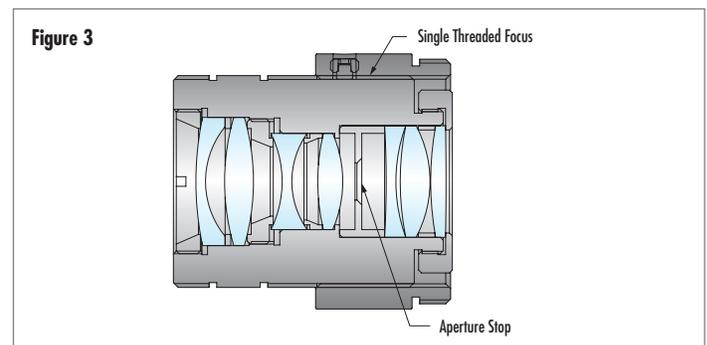

Figure 3: Industrial Ruggedized lens with simplified mechanics
**Figure 3** shows an Industrial Ruggedized lens where the focus travel is reduced to a single focus thread with locking screws and the iris has been replaced with a fixed aperture. Vibrating machines and shocks from the lens moving on a robot or automated armature will not affect the focus or f-stop of an Industrial Ruggedized lens. These lenses also prevent the user from accidentally changing the setting when it is not intended.